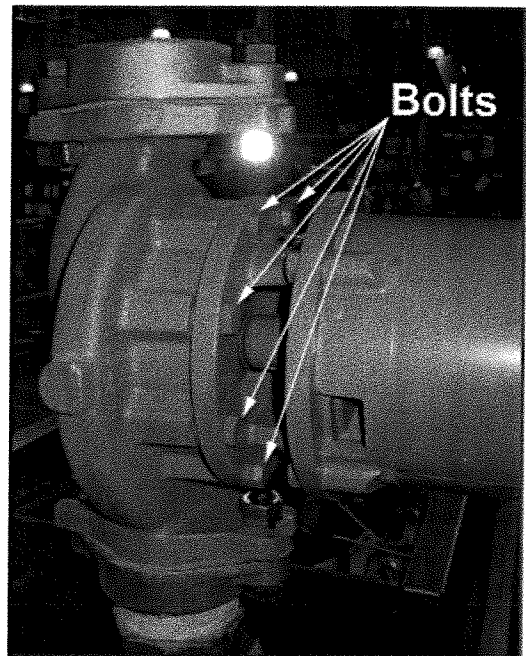

Fig. 20: Remove the eight bolts holding the pump body in place
1. Loosen and remove the eight (8) 9/16" wrench bolts holding the pump body in place. See Fig. 20.